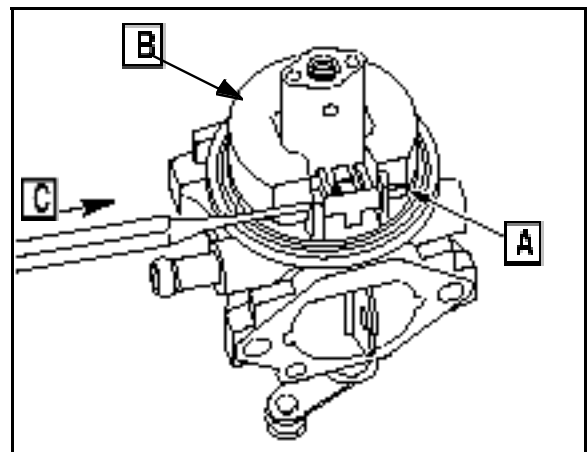

Fig. 127
15. Remove float hinge pin (A), float ([B] Fig. 127), and inlet needle.
16. Tap the end opposite the flats with a center punch ([C] Fig. 127) until it is loose.